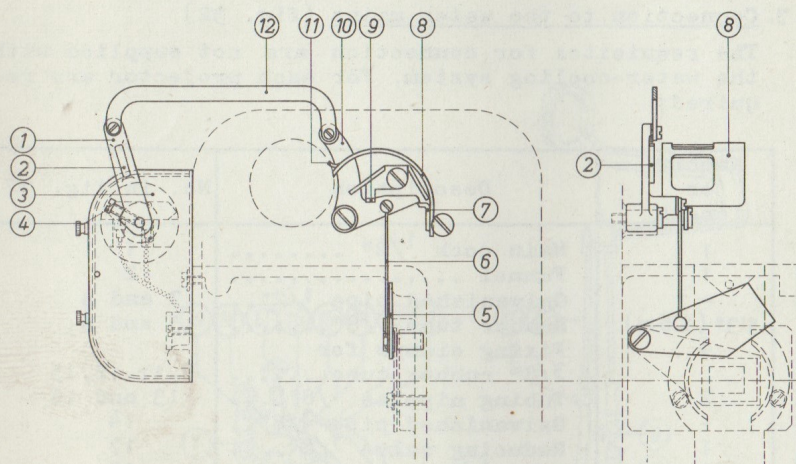

Fig. 33
The film-rupture device (fig. 33) consists of a light cut-off, a system of levers and brackets and two mercury switches. The latter are housed in the connection box at the rear of the projector.
- . For mounting the device see fig. 33.